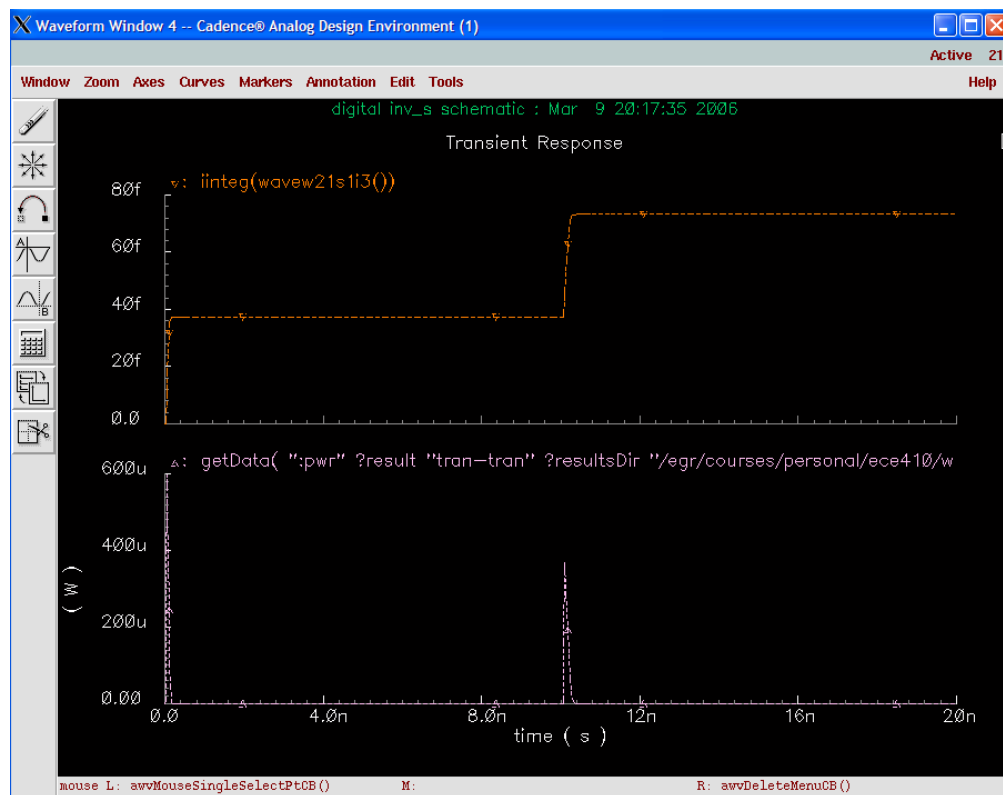

Figure 6: Waveform Window, showing instantaneous energy plotted above power
- b. Click the **plot** button on the **Calculator**. This plots the instantaneous (indefinite) integral of the selected waveform for its entire length; in this case, it’s the total energy consumed at each instant in time over the entire simulation. Note that no units are placed on the Y-axis; you can assume that the units are given in Joules (J). See **Figure 6**.